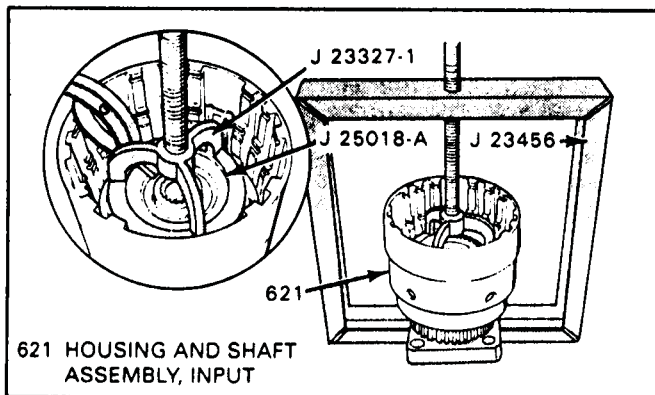

Figure 90
16. Install spring compressor tool, shown in Figure 90, compress spring assembly and install snap ring ensuring that snap ring is seated in groove.
17. Remove the spring compressor tool shown in Figure 90.